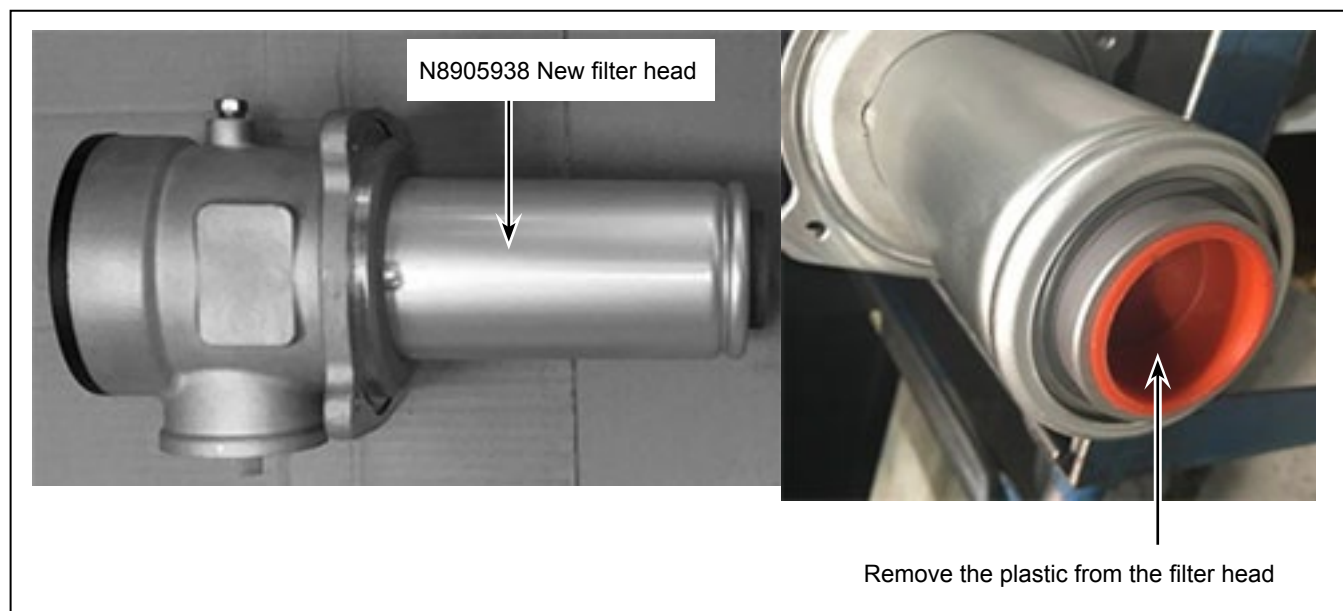

Figure 4 - Preparation of the Filter Head
- 1.20. Install the bottom adapter plate N8905940 on the hydraulic tank using the the Allen bolts N66029. See Figure 4.
- 1.22. Remove the plastic cap at the end of the new filter head N8905938. See Figure 4.